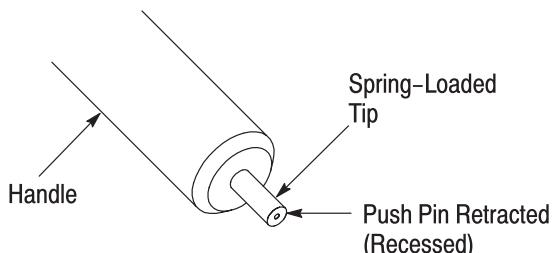

Figure 4
- Turn the adjustment cap *counterclockwise* until the push pin is retracted (recessed) into the end of the spring-loaded tip. Refer to Figure 4.